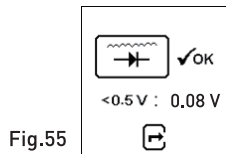

Fig.55
12. Wait for the countdown from 10 to 0. As soon as it reaches 0, the results will automatically display as example (Fig.55) shown below.